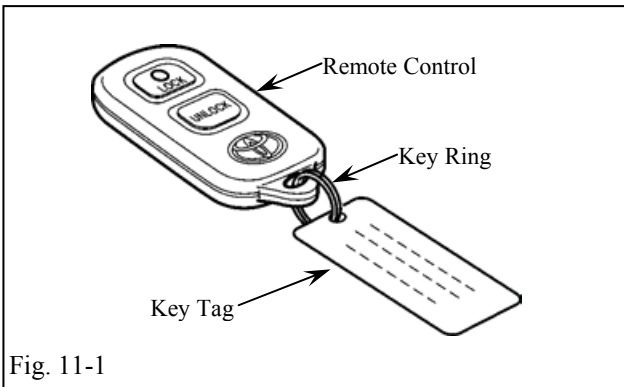

Fig. 11-1
- (a) Attach the key tag to the remote control key's ring. (Fig. 11-1)